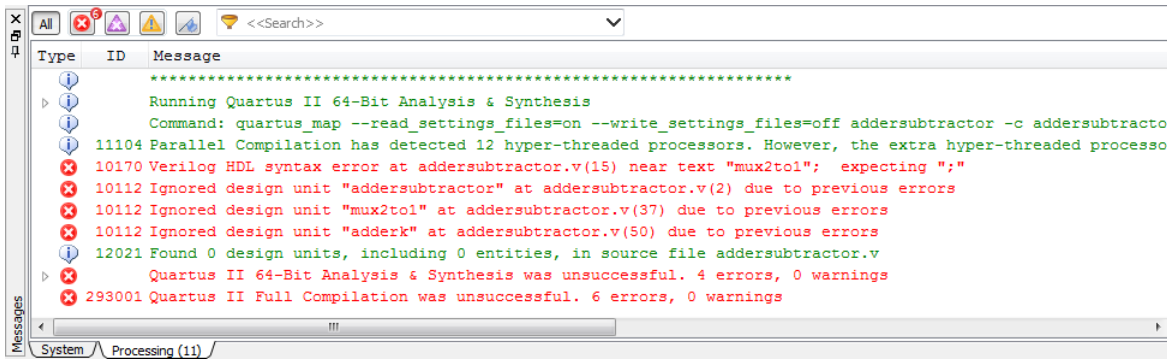

Figure 26: Error messages.
2. In this window, Click on Analysis & Synthesis > Messages to have all messages displayed as shown in Figure 26.